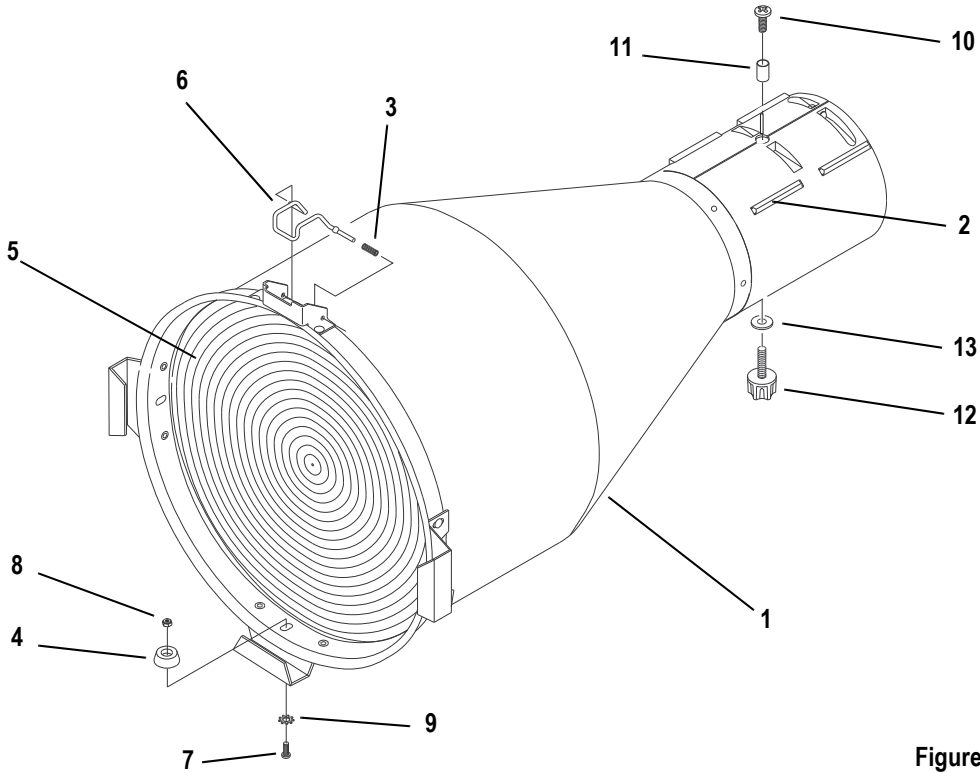
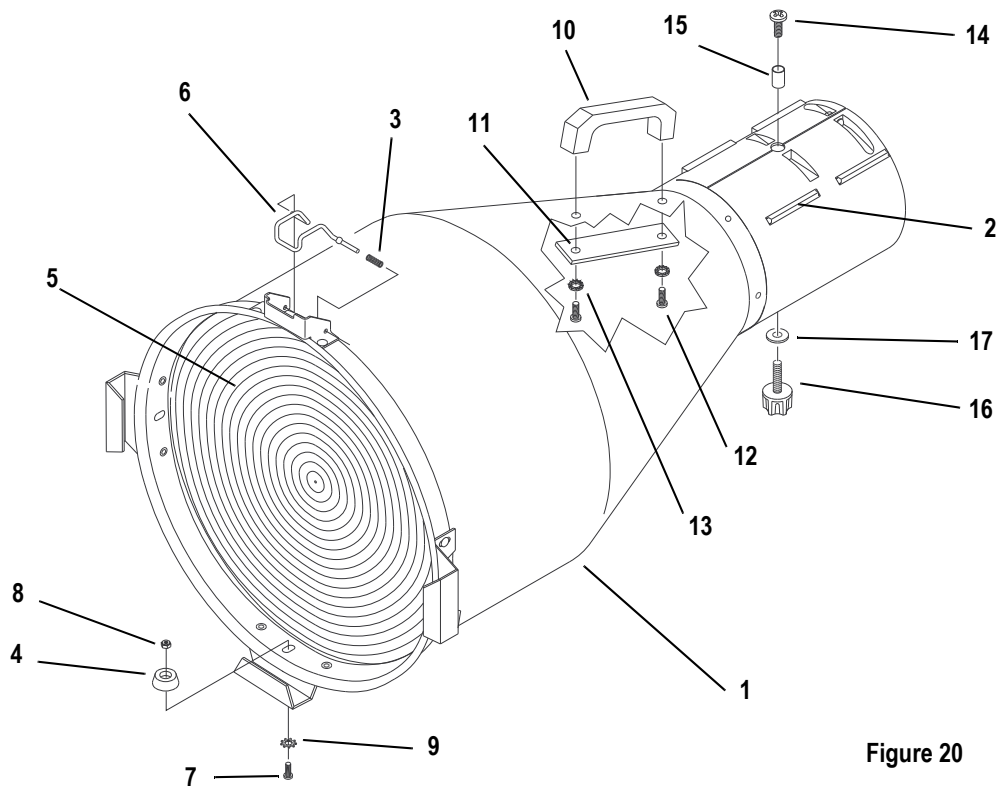

Figure 19
Figure 20
Step 2: Install lens support pads (4) as required inside both lens tubes. Four pads are required per lens. Insert pads short-side down, as shown in Figure 19.
Step 3: Install the 1/4-20 hex nut (13) in the left lens tube as shown.
- Step 1: Place the lens tube assembly (1) on your work surface. Align the assembly so that the colourframe grooves are to your left.
- Step 2: If you are assembling a 5° tube, attach the handle (10) as shown in Figure 20, using the screws (12), washers (13) and backing plate (11).
- Step 3: Install the required lens as shown in Figure 19 or Figure 20 in the tube using required bumpers (4), screws (7), nuts (8), and washers (9). The side of the lens with the fresnel grooves should face the front of the tube. The smooth side should face the rear.